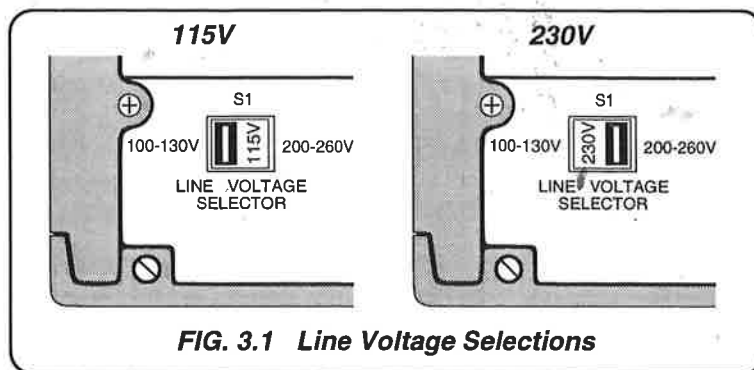

FIG. 3.1 Line Voltage Selections
1. Ensure that the 4950 Instrument and its line fuses are correctly configured for the local supply voltage (*pages 3-3 & 3-4 - Preparation for Operation; see Fig 3.1*).